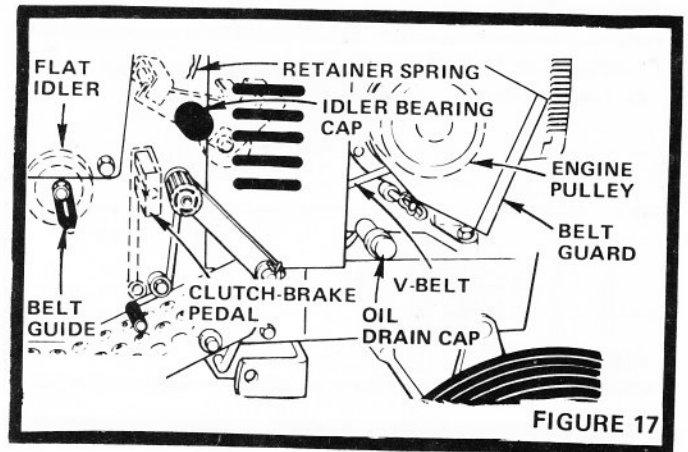

FIGURE 17
- Hold Nut on inside of Flat Idler and loosen Flat Idler Bolt (Fig. 17).
- Drain Oil with Engine warm. Unscrew Oil Drain Cap (Fig. 17) and catch Oil in a suitable container. Replace Cap.
- Idler Bearings (Fig. 17).